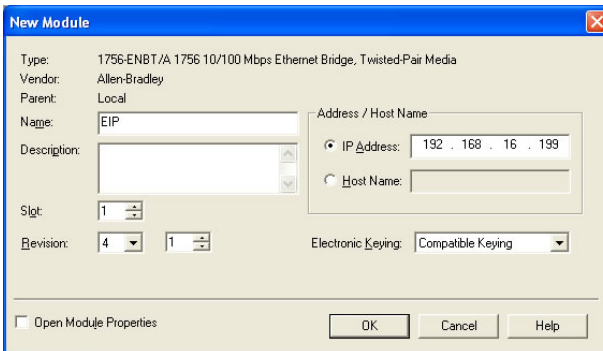

Figure 78: Configuring the New Module
- 6) The "New Module" window will open. Refer to Figure 78.